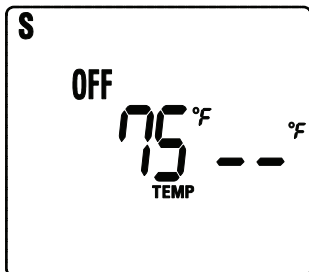

Fig. 8 OFF Mode
To operate the transmitter, first press the MODE button until the LCD screen reads OFF in the display (Fig. 8).
Step 4: Press the MODE button a fourth time to turn the appliance back OFF again as show in Fig. 8.